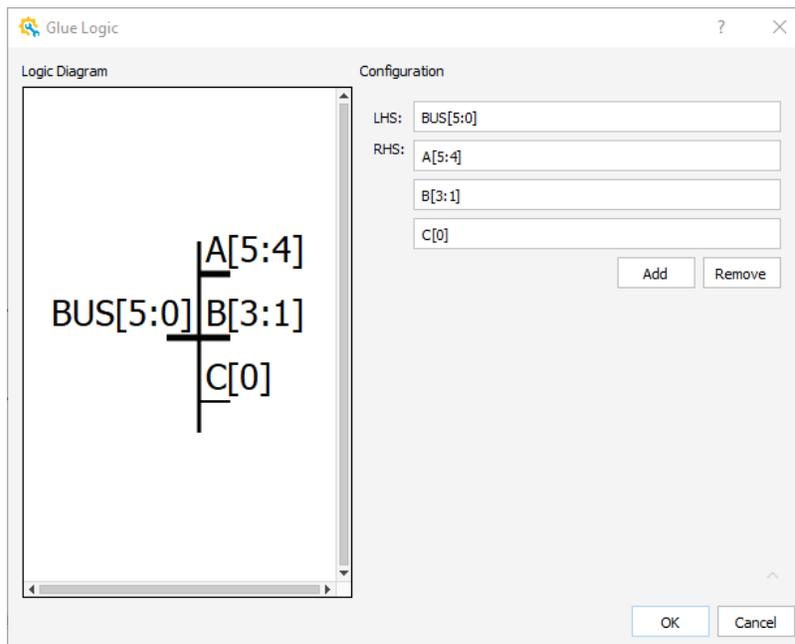

Figure 2.31. Glue Logic Wizard for Split Module
- From the IP Catalog, select the **split** module. Double-click the split module or drag and drop the split module to the Schematic view. A Glue Logic wizard (Figure 2.31) pops up.